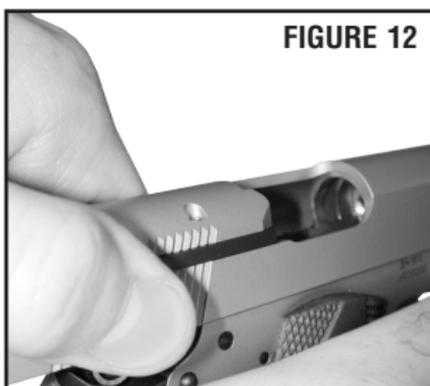

FIGURE 12
- With the muzzle still pointing in a safe direction, grasp the serrated sides of the slide from the rear with the thumb and fingers as shown (FIGURE 12) and briskly draw the slide fully rearward and release it. This strips a cartridge from the magazine and seats it in the chamber of the barrel and at the same time, fully cocks the hammer.